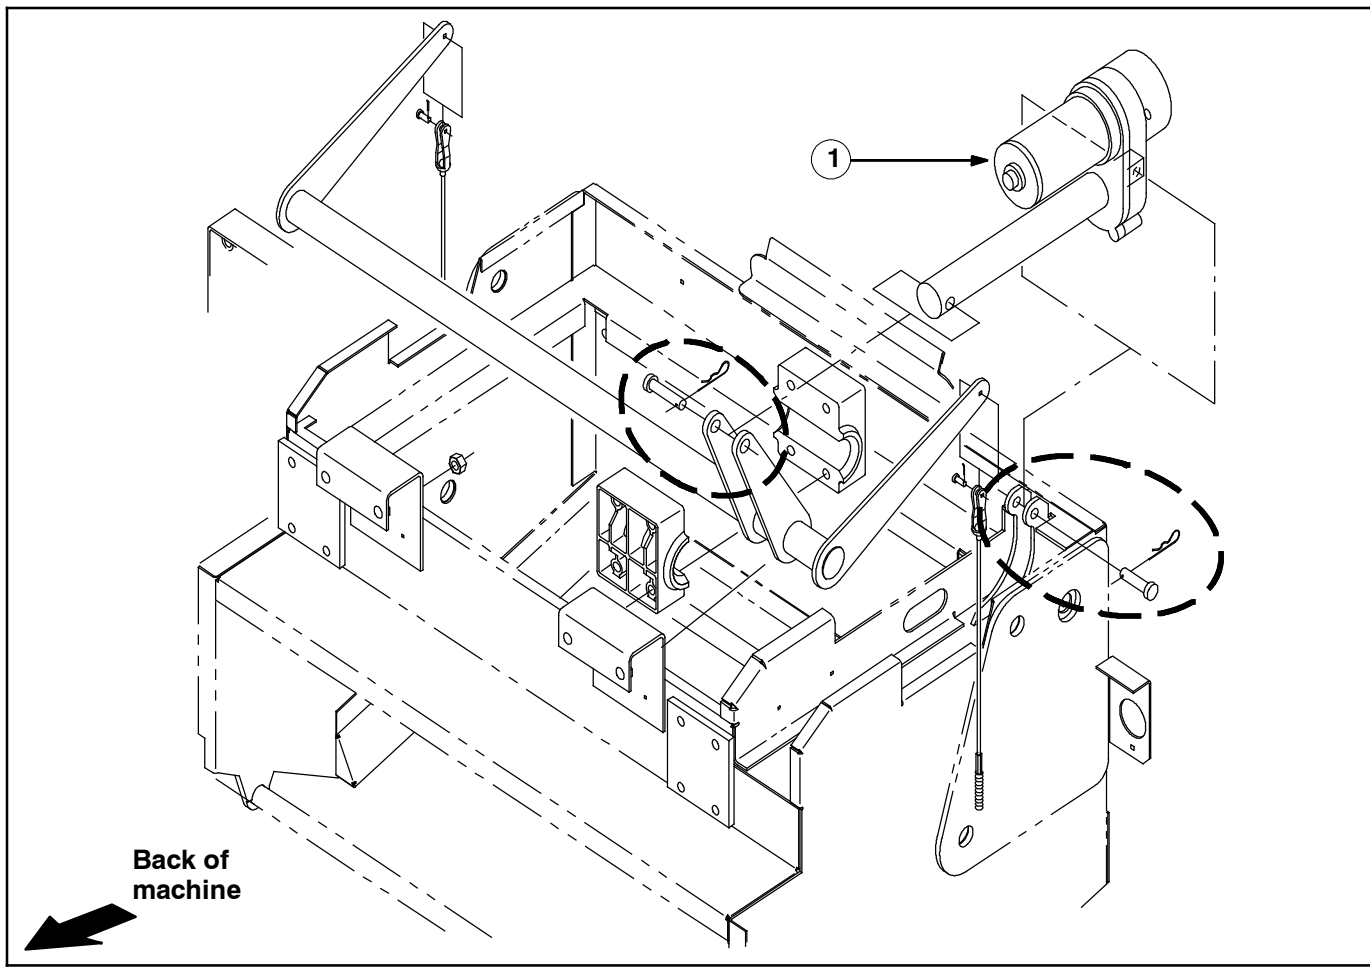

FIG. 1 - New Actuator Kit Installation
3. Use the clevis and cotter pins to install the new actuator (1) onto the machine. Be sure the newly installed actuator is in the same position as the removed actuator. (Fig. 1)